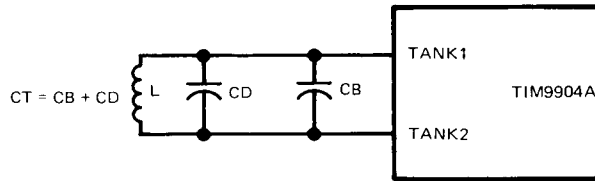

FIGURE 7 – EFFECT OF BOARD ON TANK CIRCUIT RESONANT FREQUENCY
Because the value of the capacitance is in the picofarad range, board capacitance must be considered when selecting component values for the LC tank circuit. The board capacitance (CB) will be added to the device capacitance (CD), as shown in Figure 7.